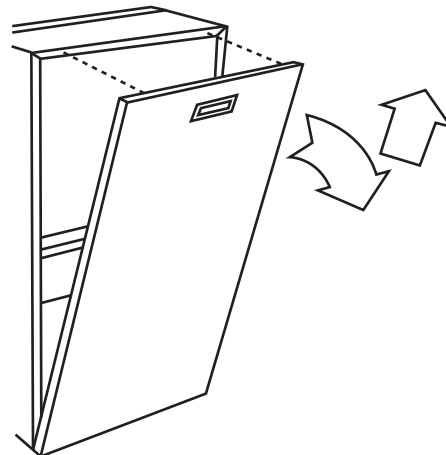

Fig. 28 - Remove Furnace Door A08595
- b. Gently remove air filter and carefully turn the dirty side up (if dirty) to avoid spilling dirt from the filter. (See Fig. 28.)